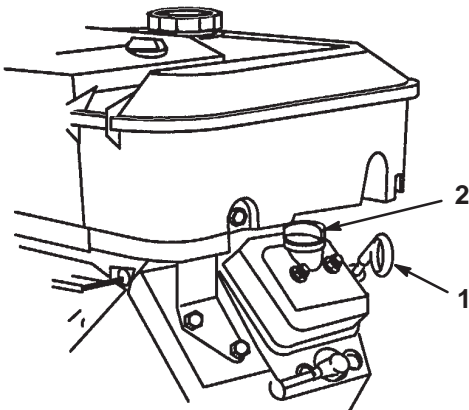

Figure 2
2. Clean around the oil dipstick (Fig. 2) so dirt cannot fall into the hole and damage the engine.
4. Slide the oil dipstick fully into the filler tube, but do not thread it onto the tube. Pull the dipstick out and look at the metal end. If the oil level is low, remove the filler cap from the valve cover (Fig. 2) and pour oil into the